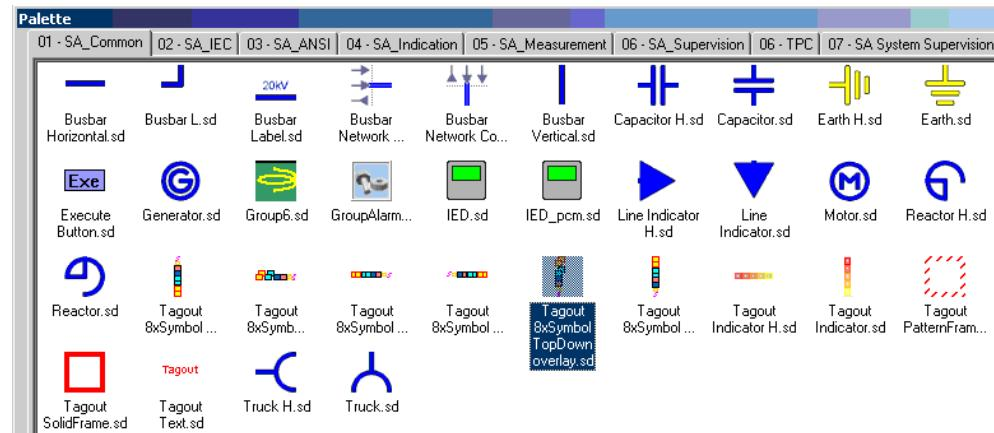

Figure 56: Tagout symbol selection from the palette
- From the 01 - SA_Common palette without automatic creation and mapping of all used data variable. See Figure 56 below.